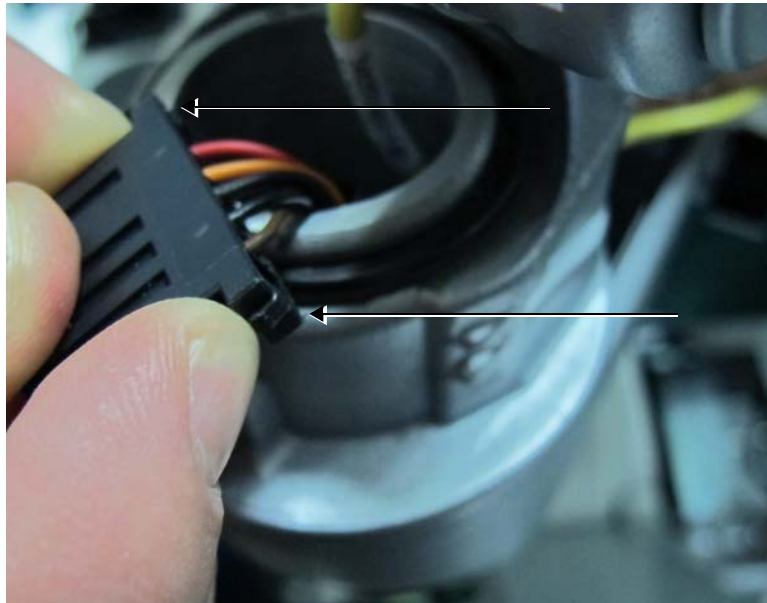

Figure 8-76 Squeeze the Connector Clips and Feed Cable Downwards
- 7.) Squeeze the connector clips, then feed the display monitor cable lead to the OPIO through the upper articulated arm joint as shown in Figure 8-76.